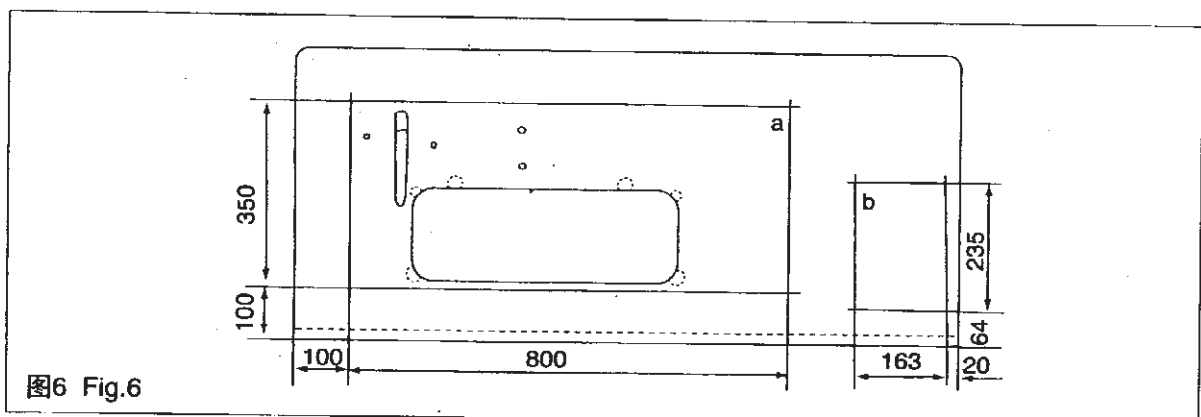

图6 Fig.6
- (6) 机架安装示意图: (图6)
- (6) Sketch map of machine stand installation: (Fig.6)